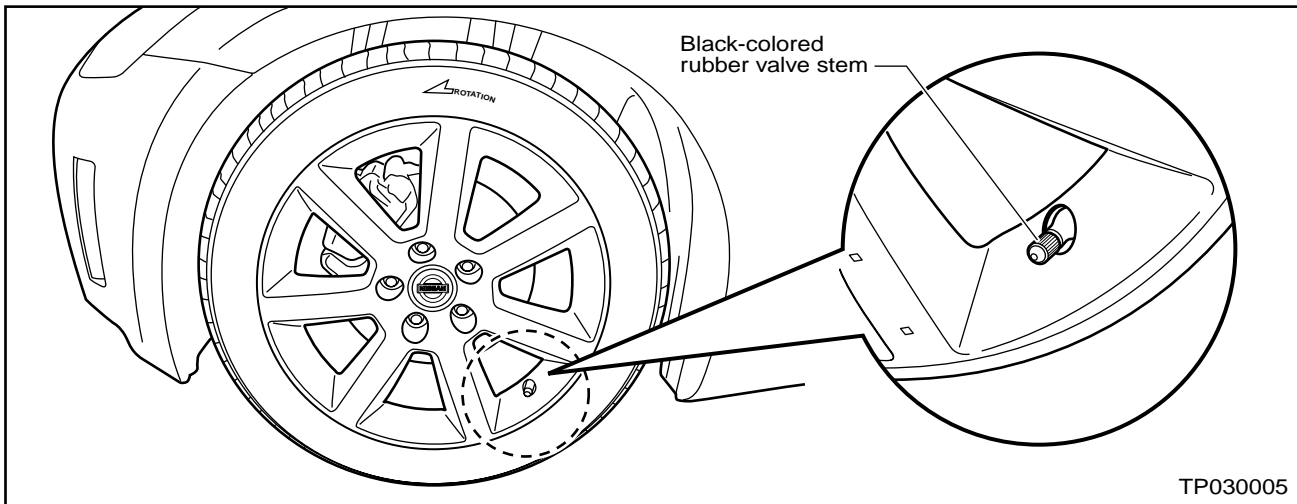

Figure 5
- A. If the valve stems are **black-colored rubber-type** (see Figure 5):